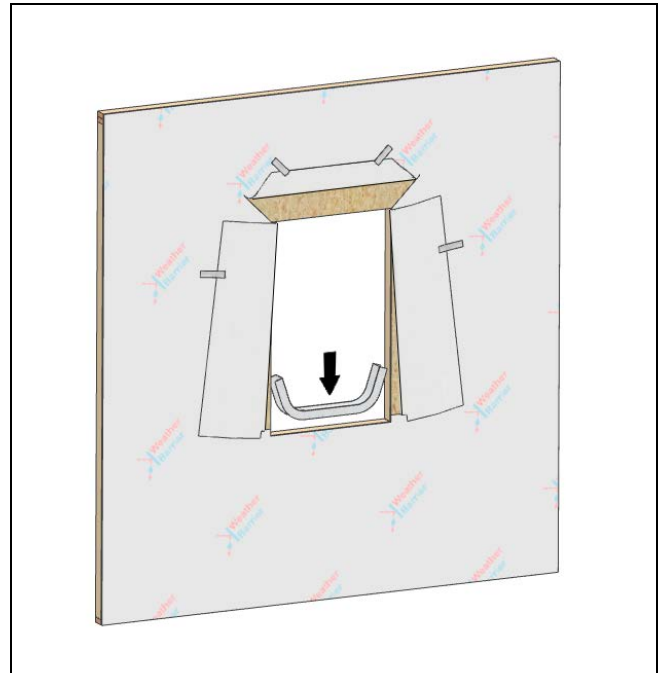

Figure 18
3. **TYPE III Sill Pan Flash:** Apply self sealing flexible membrane slope. See Figure 18.